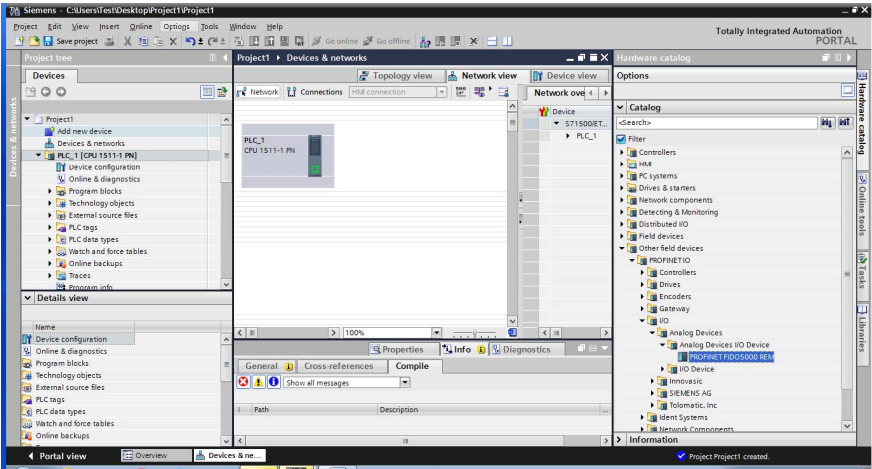

Figure 81. Main Test Project Window
1. Within the main test project window, click **Devices & networks** (see Figure 81).
2. Expand the **Hardware catalog** pane on the right-side of the window and select **PROFINET FIDO5000 REM** (see Figure 81).